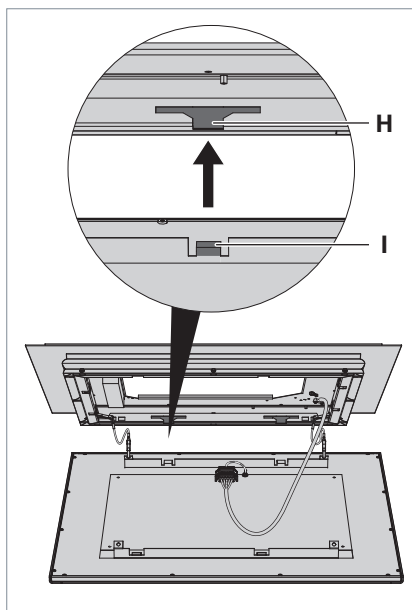

Fig. 9: Positioning the direct light element.
- Insert the four lugs **I** of the direct light element into the four recesses **H** of the luminaire frame, see Fig. 9.